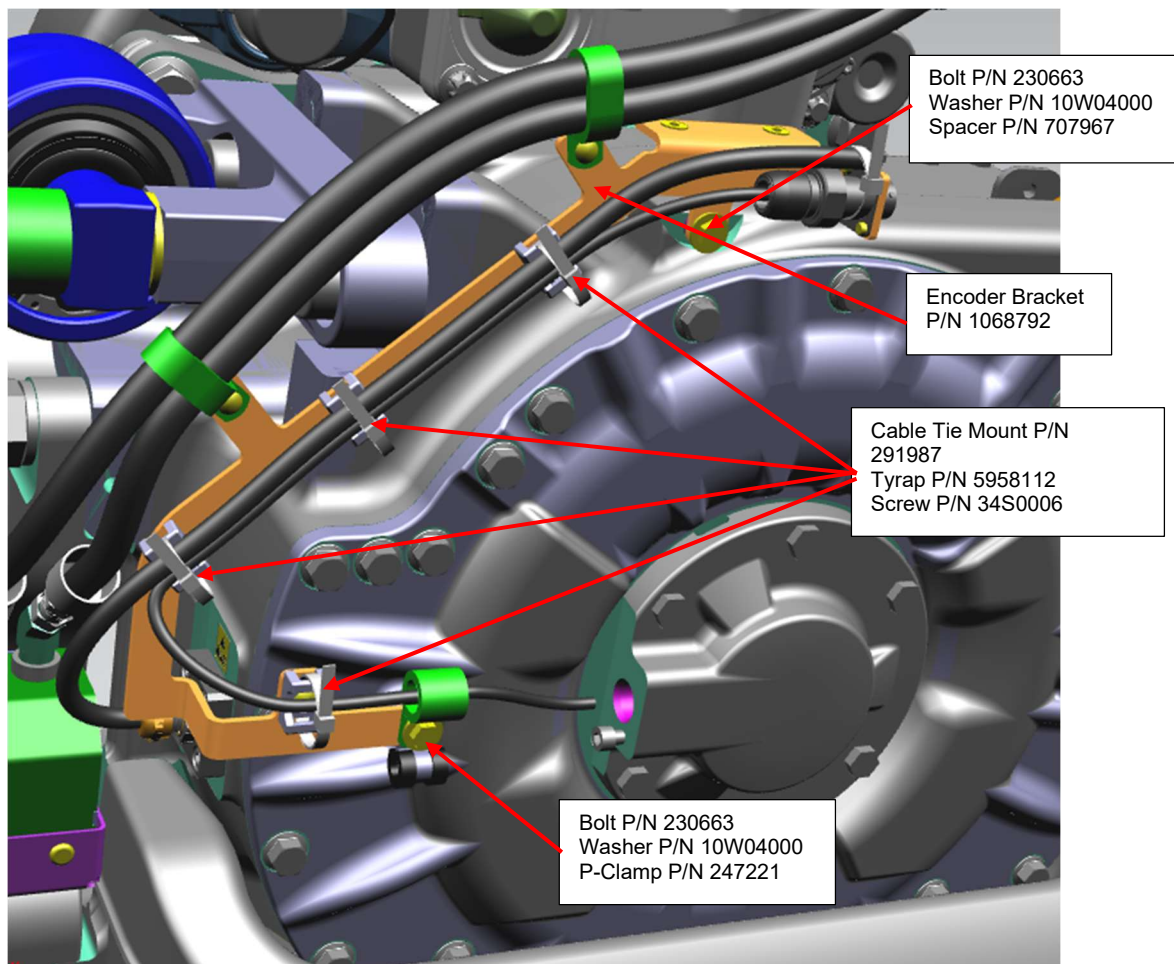

Figure 2: New Curbside Encoder Bracket Installation.
3. Install a new encoder bracket NF P/N 1068792 on the curbside of the axle using two bolts NF P/N 230663 bolts, two washers NF P/N 10W04000. A spacer NF P/N 707967 is required between the encoder bracket and the axle motor casing on the upper bolt. Install a p-clamp NF P/N 247221 under the lower bolt to secure the speed sensor cable Figure 2.